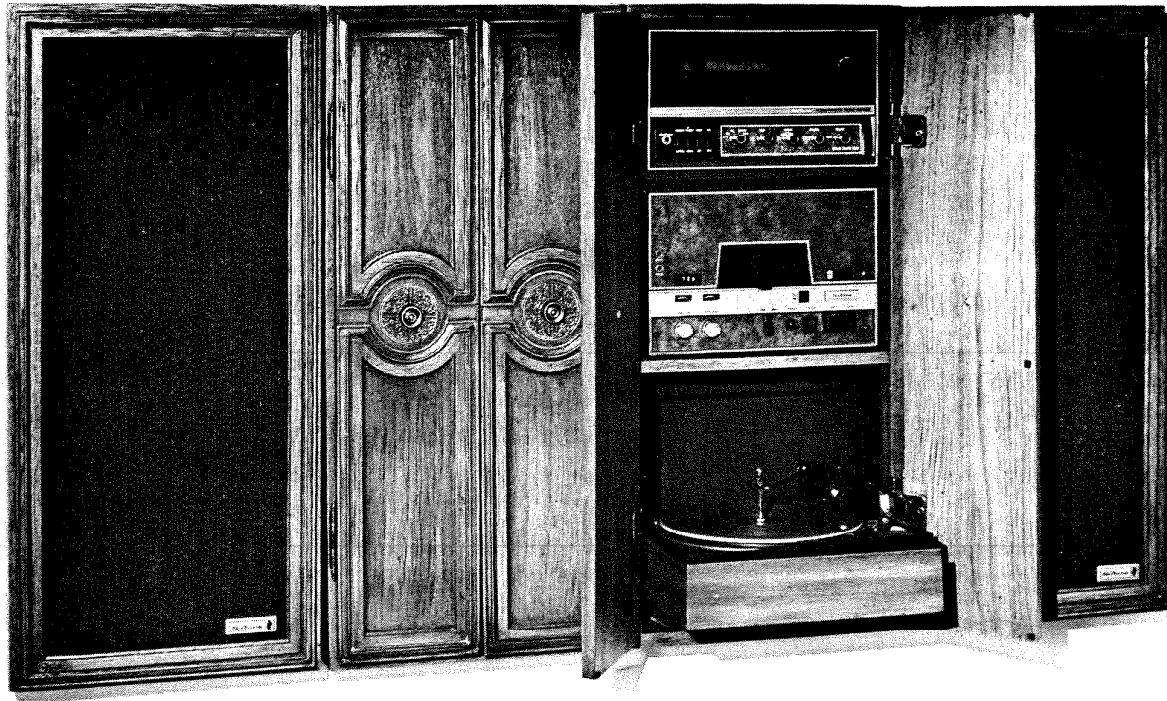

Fig. 2
1. The MUSICOM Master Unit may be installed at any desired location: independently as in Fig. 1 or, adjacent to the Model 2520 Deluxe Speaker and/or the optional Model 2504-Storage Cabinet(s) as in Fig. 2.